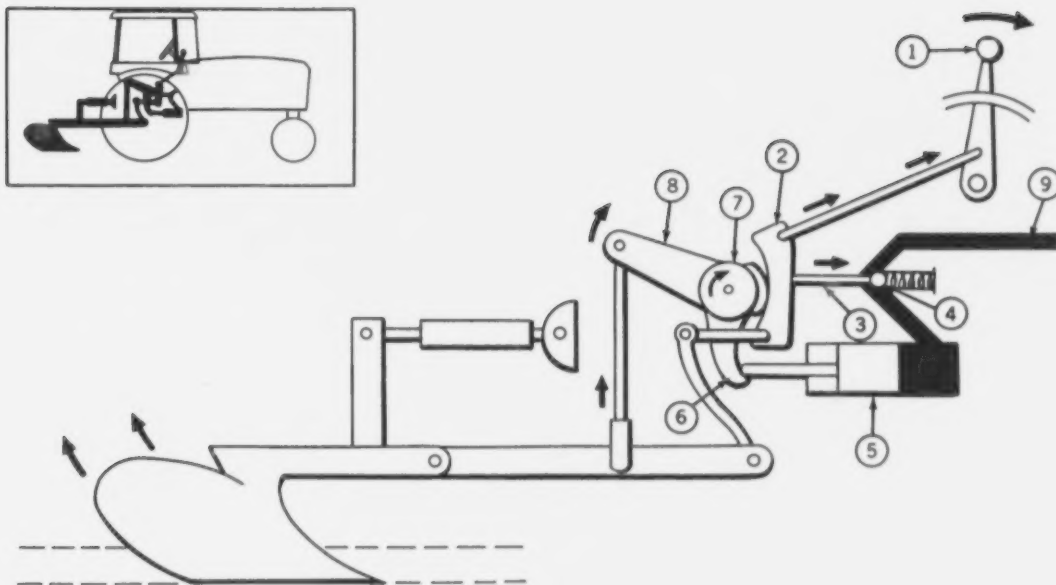

Fig. 4—Raising The Plow Using The Control Lever
In Fig. 4, the plow hits hard ground and the operator wants to raise it slightly. So he moves the control lever (1) to the front. This pivots the cam follower (2) forward and presses it against rod (3) which opens valve (4). Pressure oil is now admitted to the cylinder, forcing piston (5) to the rear. The piston pushes against the shaft arm (6), rotating rockshaft (7) and lift arm (8) upward. The lift arm is attached to the plow and so the